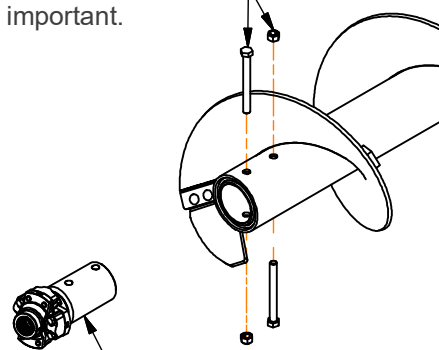

FIG. 4-16
- Attach the u-joint assembly to the lower auger flighting by placing 3/4"-10UNC x 7" capscrews (9390-159) and 3/4"-10UNC lock nuts (9802) into the auger from opposite directions as shown in FIG. 4-16